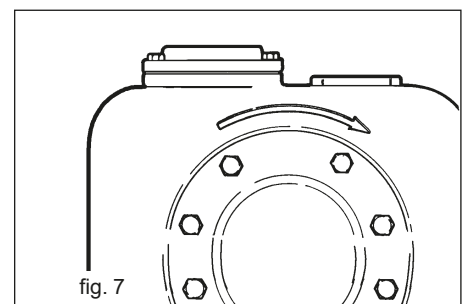

fig. 7
- Once wiring is complete, close the delivery line gate valve and make sure direction of rotation is correct as indicated by the arrow marked on the pump casing in fig. 7.